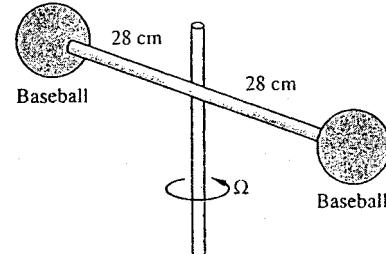

Fig. P7.69
- 7.69** Two baseballs from Prob. 7.68 are connected to a rod 7 mm in diameter and 56 cm long, as in Fig. P7.69. What power, in W, is required to keep the system spinning at 400 r/min? Include the drag of the rod, and assume sea-level standard air.